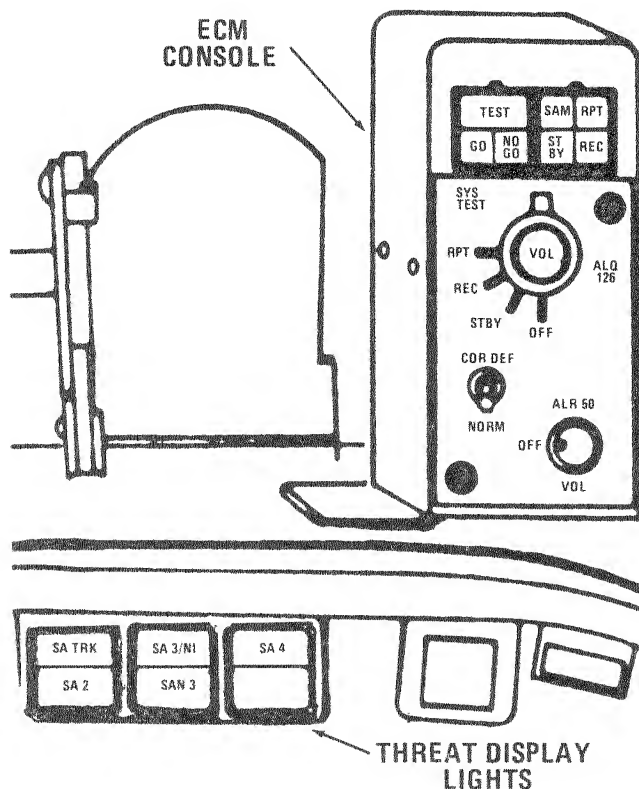

Figure 8-3. ECM Console
Operating controls for the ALQ-126(V) countermeasures system are located on the ECM console (figure 8-3).